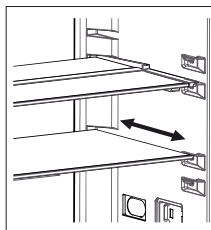

Fig.1
- To bring the shelf in its original position, pull it toward you (Fig.1).